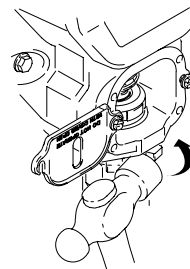

Fig. 13
6. Fig. 13. Screw jam nut (12) up onto pump until nut stops. Tighten jam nut by hand, then tap 1/8 to 1/4 turn with a 20 oz (maximum) hammer to approximately 75 ± 5 ft-lb (102 N·m).